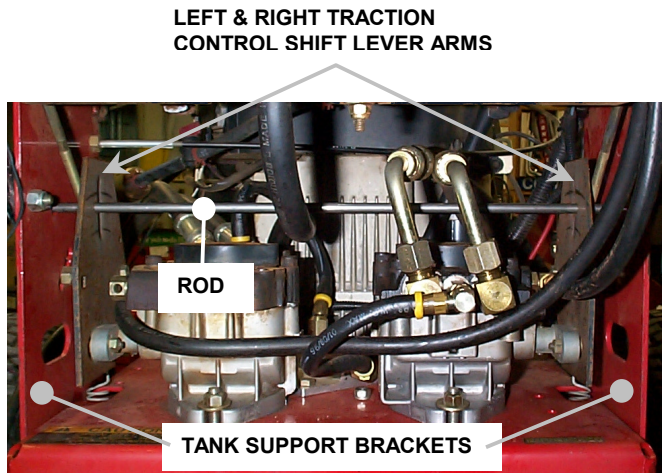

FIGURE 3.9
**STEP 3:** Insert rod (5/16" diameter x 20" long) through alignment holes in the left and right traction control shift lever arms and the tank support bracket. The rod should pass through both the left and right traction control shift lever arms. See Figure 3.9.